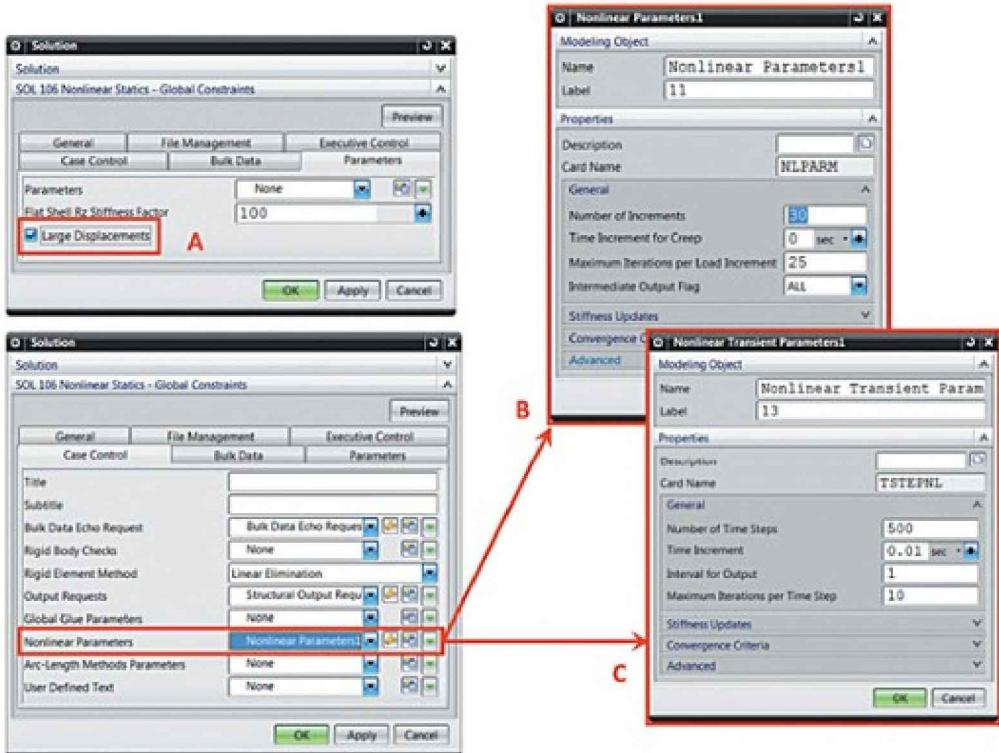

Figure 4.14. Key parameters of NLSTATIC 106 and NLTRAN 129 solutions
- Select the *Large Displacements* check box to account for large displacement effects (Figure 4.14, A) for static and dynamic solutions.
- In the *Number of Increments* box, type the number of load increments that is used for an incremental application of the load to the structure in a static solution. If you encounter unsatisfactory convergence, increase this value (Figure 4.14, B).
- In the *Intermediate Output* list, select whether results should be written for all converged steps or only for the last one (Figure 4.14, B).
- In the *Number of Time Steps* box, type the number of time integration steps for dynamic analysis (Figure 4.14, C).
- In the *Time Increment* box, enter the time integration step (Figure 4.14, C).
- In the *Interval for Output*, set up results recording at every *n*-th step (Figure 4.14, C).